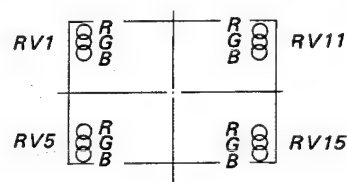

Fig. 1-14.
5. Adjust RV1, RV5 and RV11, RV15 on the DB board to coincide with the R, G and B dots as shown in Fig. 1-14.